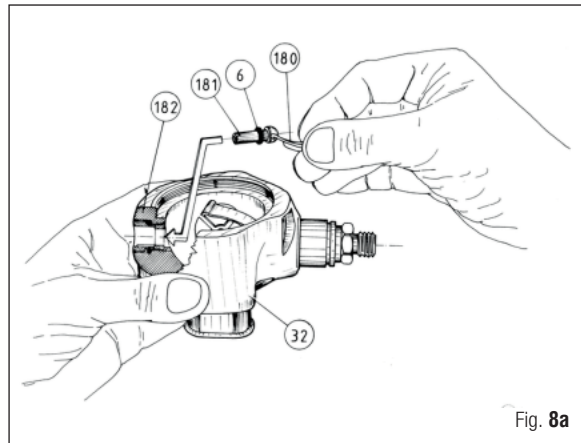

Fig. 8a
- b. Position the O-ring (6) in the seat of the DPD lever support (181) (Fig. 8a).
c. Insert the DPD lever support (181), complete with lever (180), into the DPD housing (182) (Fig. 8a).